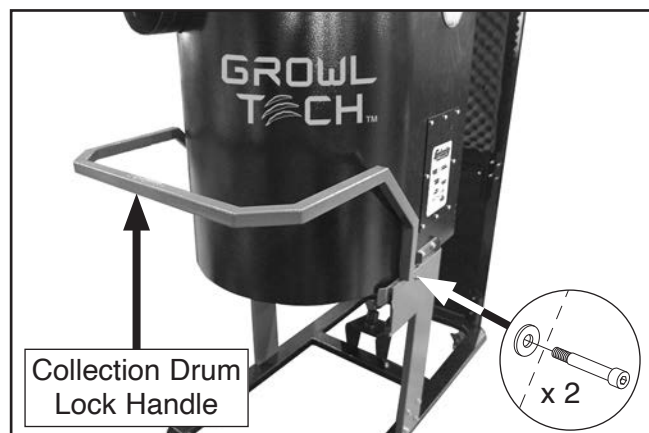

Figure 25. Collection drum lock handle attached to legs.
10. Attach collection drum lock handle to legs using (2) M6-1 x 25 shoulder screws and (2) M6-1 lock nuts (see **Figure 25**).